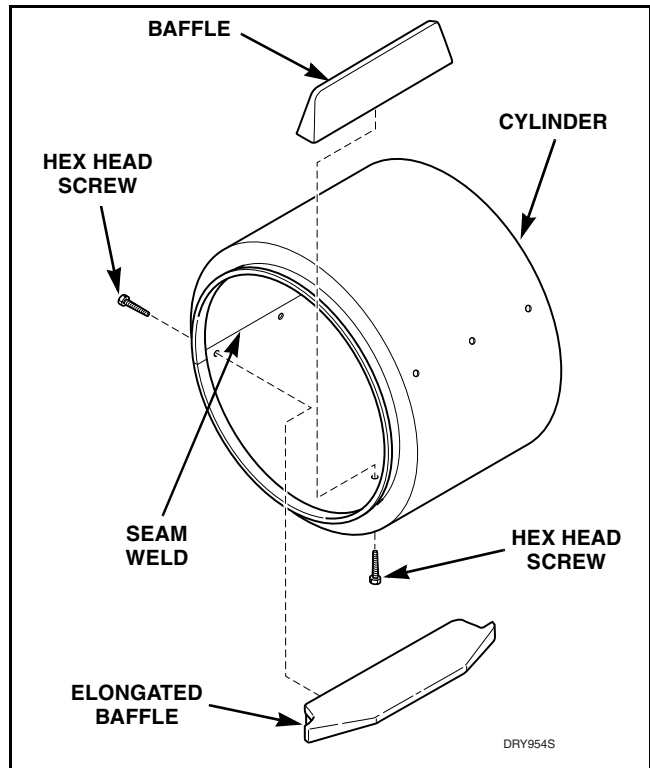

Figure 31
- Remove screws and washers holding baffles to cylinder. Refer to *Figure 31*. New cylinder has one baffle that is longer than the others. Longer baffle goes on weld on cylinder.